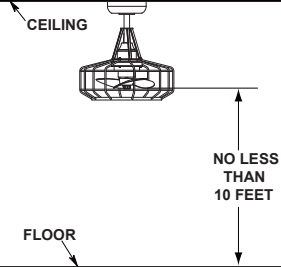
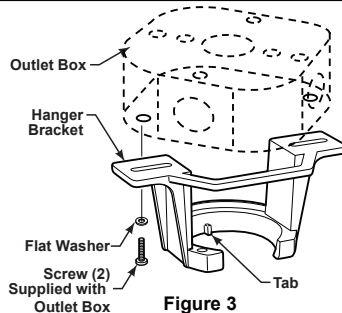

Figure 2
Figure 3
Your new ceiling fan will require a grounded electrical supply line of 120 volts AC, 60 HZ, 15 Amp Circuit. Electrical code requires use of a fan-rated outlet box to support the extra weight and motion associated with a ceiling fan. A fan-rated box will be labeled as such and typically supports up to a 70lbs ceiling fan. Fan-Rated Outlet Boxes vary in ratings and design. Ensure the ratings of your ceiling fan outlet box meet the requirements for the ceiling fan being installed. Figure 1, Figure 2 and Figure 3 depicts different structural configurations that may be used for mounting the outlet box.
Deep-profile use (Figure 2)
Brace use (Figure 3)
2. Remove the hairpin clip and clevis pin from the bottom of the downrod. Retain the pin and clip for reinstallation in Step 4. (Figure 2)
3. Loosen the two set screws and locking nuts in the downrod support of the motor assembly. Route the black and white wires through the downrod. (Figure 3)
The fan must be hung with at least 10' of clearance from floor to blades. (Figure 2)
- ☐ 1. Securely attach the hanger bracket to the outlet box (not included) using the outlet box screws and washers supplied with the outlet box. (Figure 3)
To avoid possible electrical shock, be sure electricity is turned off at the main fuse box before wiring. (Figure 2)
2. Slide the receiver into the hanger bracket before wiring as shown in figure 3.
- ☐ 2. Securely attach and tighten the canopy screw cover over the shoulder screws in the hanger bracket utilizing the key slot twist-lock feature. (Figure 2)
- ☐ **2.** Restore electrical power to the outlet box by turning the electricity on at the main fuse box. (Figure 2)
- ☐ **3.** To make fan operational, install 23A/12V battery (included) in hand-held remote transmitter, with fan power off. Then follow the remote code setting process. (If not used for long periods of time, remove battery to prevent damage to transmitter). Store the remote away from excessive heat or humidity. (Figure 3)